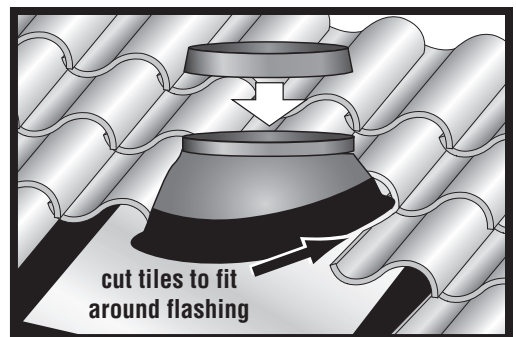
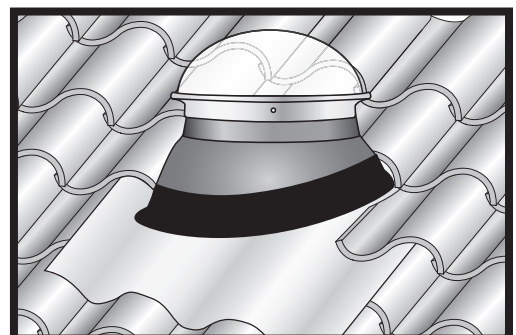

Figure 4
Figure 5
**5.** For S-tile installations, an optional 3" turret extension can be used. Slip turret over the flashing lip and secure with the (4) screws provided (see Figure 4).
**6.** At the high side of the roof towards the ridge, replace the tiles over the skirt. Cut tiles to fit around flashing (see Figure 4). Some furring strips may need to be replaced on top of flashing footprint to support tiles. Replace the tiles on the low side of the roof, but keep skirt above the tiles and reshape the skirt aluminum to form around the tiles (see Figure 5).